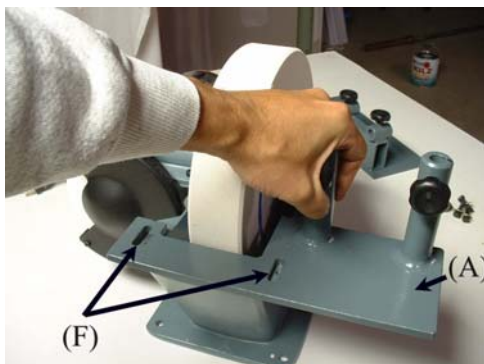

Fig 7. Alignment of base with machine. Fig 8. Alignment of toolrest and mount bases
Align the two slots (F) in the base of the vertical mount (A) with the threaded holes that held the original flat toolrest (Figure 7). Align the slots of the base of the original flat toolrest with the slots from the vertical mount (Figure 8) and insert two supplied hex head bolts with flat and locking washers (D) into the matched slots and hand tighten. Insert a toolpost into the vertical mount and adjust the base until the jig support portion of the toolpost and flat toolrest run square to the grinding wheel (Figure 9). Tighten mounting bolts until the lock washers are fully compressed (Figure 10)